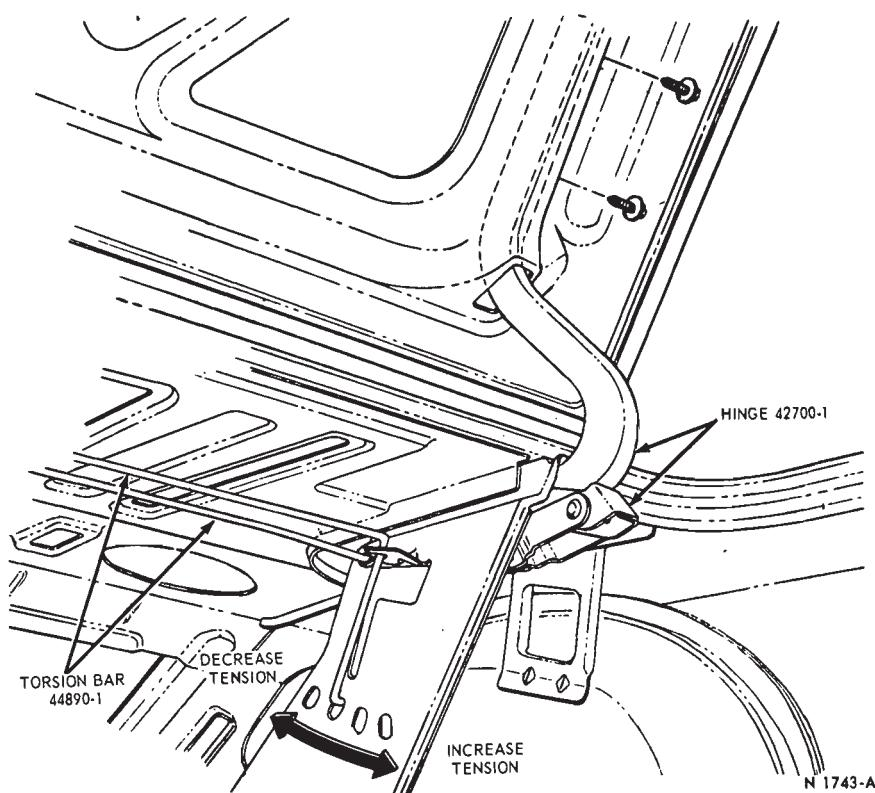
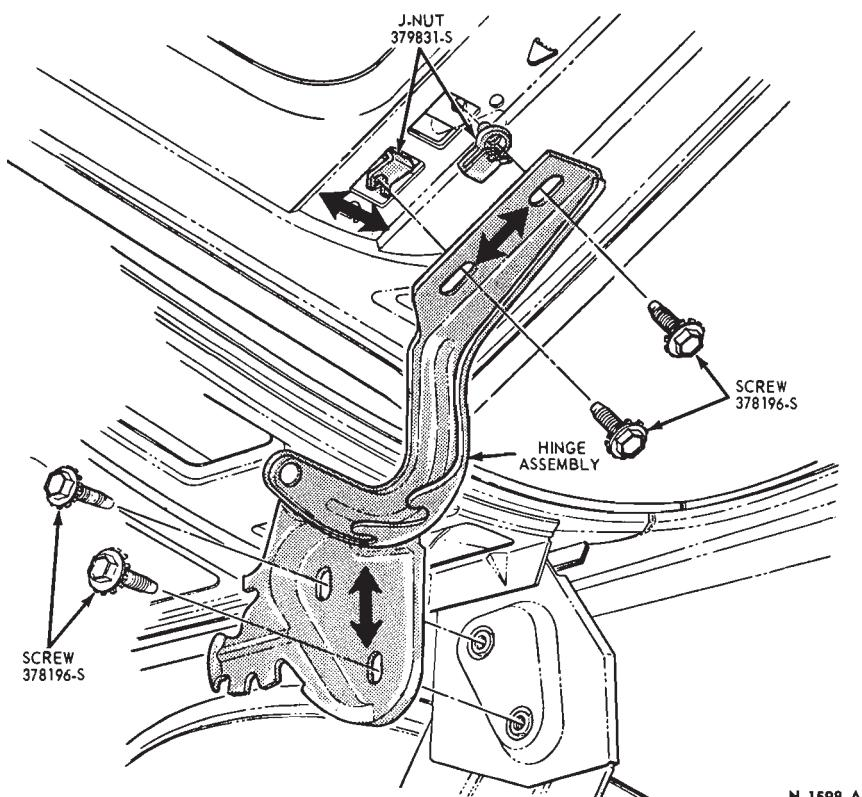

FIG. 1—Luggage Compartment Door Hinge and Torsion Bar—Ford, Mercury, Meteor, Fairlane and Montego
FIG. 2—Luggage Compartment Door Hinge—Mustang and Cougar
The luggage compartment door (deck lid) can be shifted fore and aft and from side to side by loosening the hinge-to-door attaching screws (Figs. 1 and 2). The up and down adjustment is obtained by adding or removing shims between the hinge and the door (Figs. 1 and 3). On Mustang and Cougar Models, the up and down adjustment is obtained by loosening the hinge-to-hinge support attaching screws and raising or lowering the hinge (Fig. 2). On Ford, Mercury and Meteor models, the up and down adjustment is made by loosening the hinge-to-door attaching screws and raising or lowering the door.
5. To adjust the torsion bar on Ford, Mercury, Meteor, Fairlane or Montego models, disengage the lower end of the bar from the hole and position it into the next hole (Fig. 1).